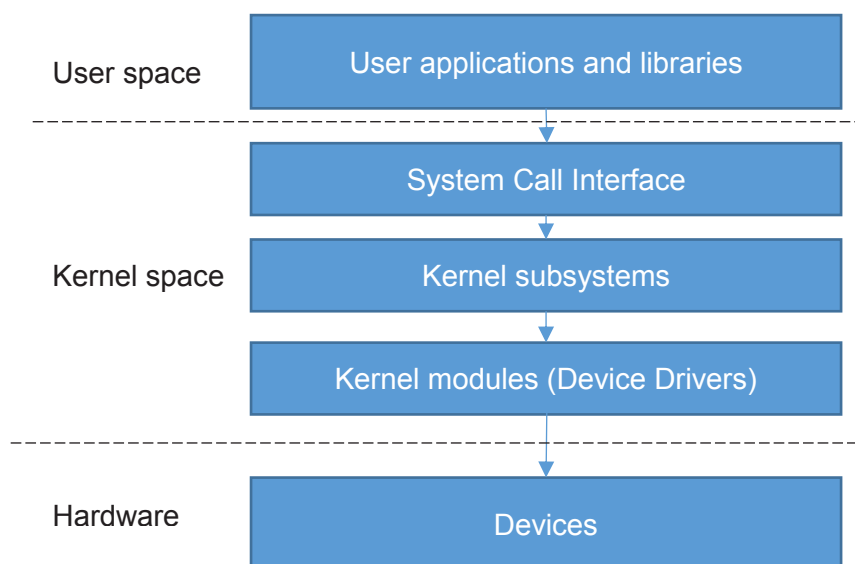

Figure 3- Layers of a Linux OS
Before running the DAQ system, an **overview on the communication between the software and the hardware layers and an introduction to the role of device drivers**, is fundamental to understand. *Figure 3* shows a simplified diagram of the Layers of a Linux Operating System (OS).